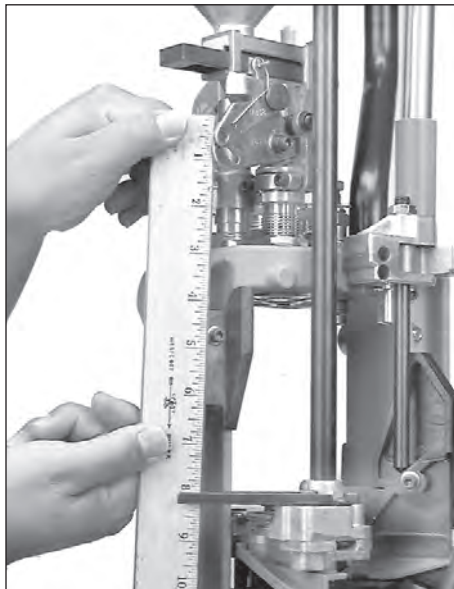
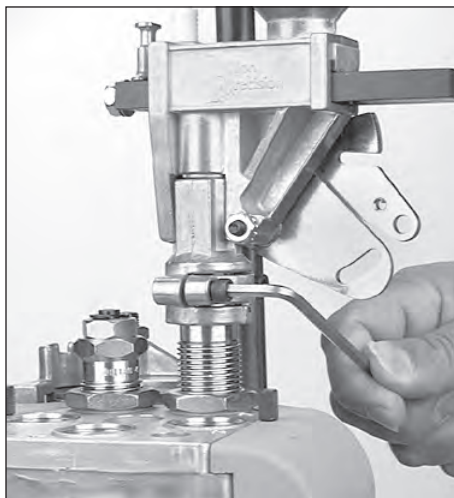

FIG 45
FIG 46
7. Insure the bellcrank and the failsafe bracket **FIG 45** are aligned. Using a 5/32" Allen wrench, snug the collar clamp screws **FIG 46**.